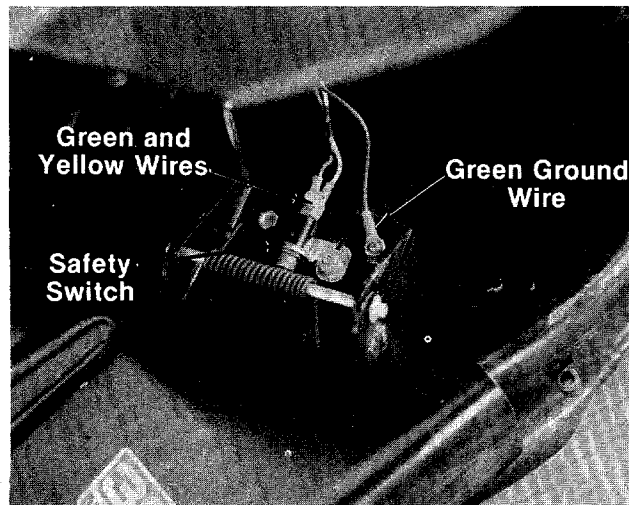

FIGURE 34.
3. Unplug the green and yellow wire at the safety switch on the chute side of deck. Remove the green ground wire using a 7/16" wrench. See figure 34.